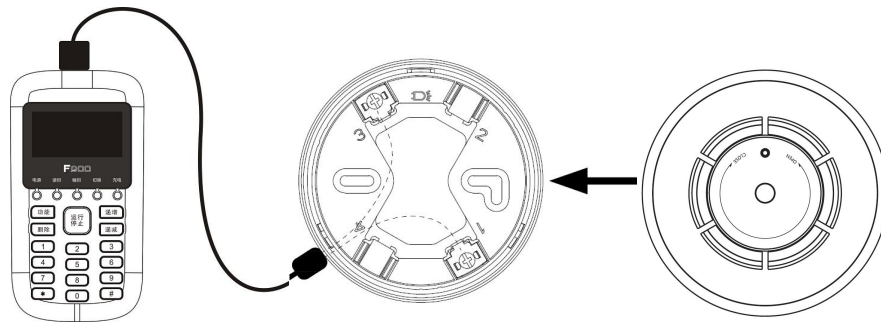

Figure 4
5.3 Coding address: As shown in Figure 4, connect the detector to the encoder, L1 and L2 use a non-polar connection, set the encoder as the coding function, prepare the correct address code, and press the "Run" key to complete the address coding Settings.